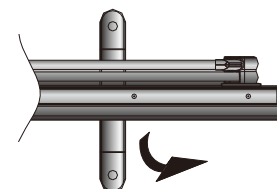

Figure 16
3. Rotate the feet in line with the casing. Retraction is completed (Figure 16 - 18).